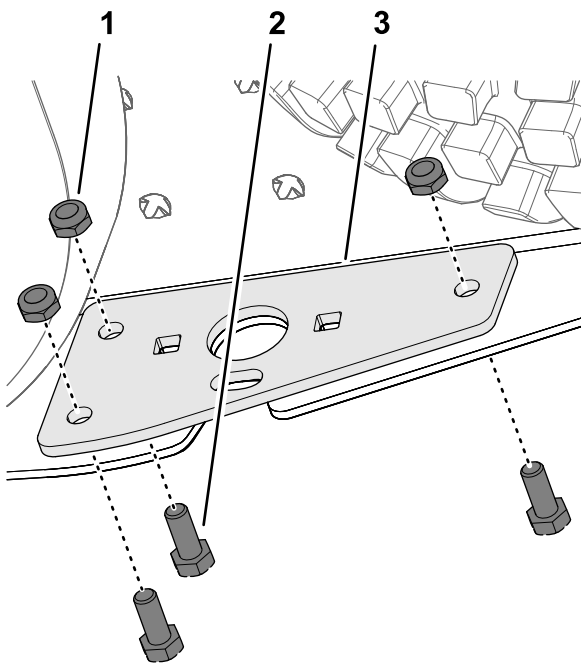

Figure 9
6. Assemble the pivot bracket to the footrest (Figure 9) with 3 hex-head bolts (5/16 x 3/4 inch) and 3 locknuts (5/16 inch).